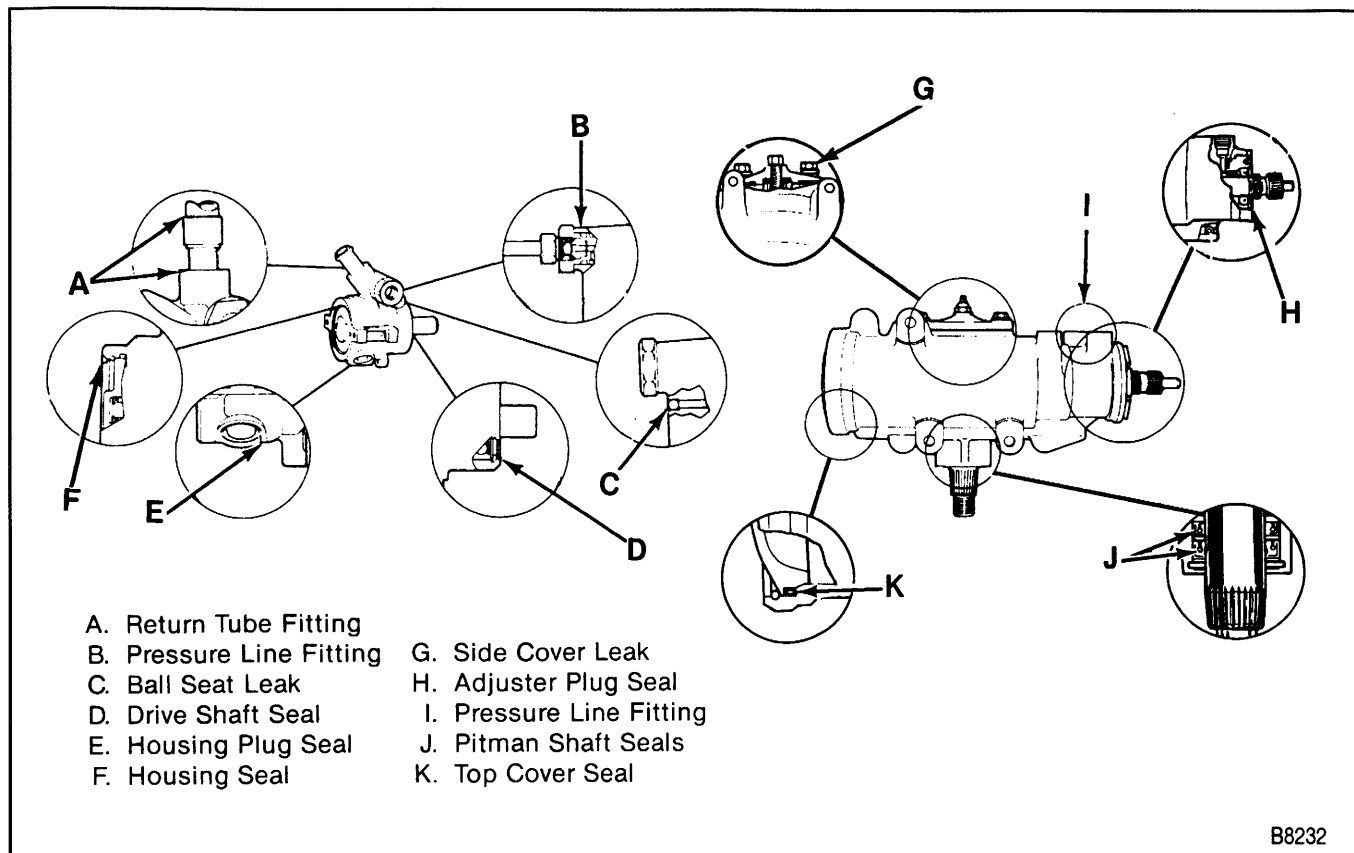

Figure 2—Fluid Leak Locations
4. Locate the exact area of the leak (figure 2).